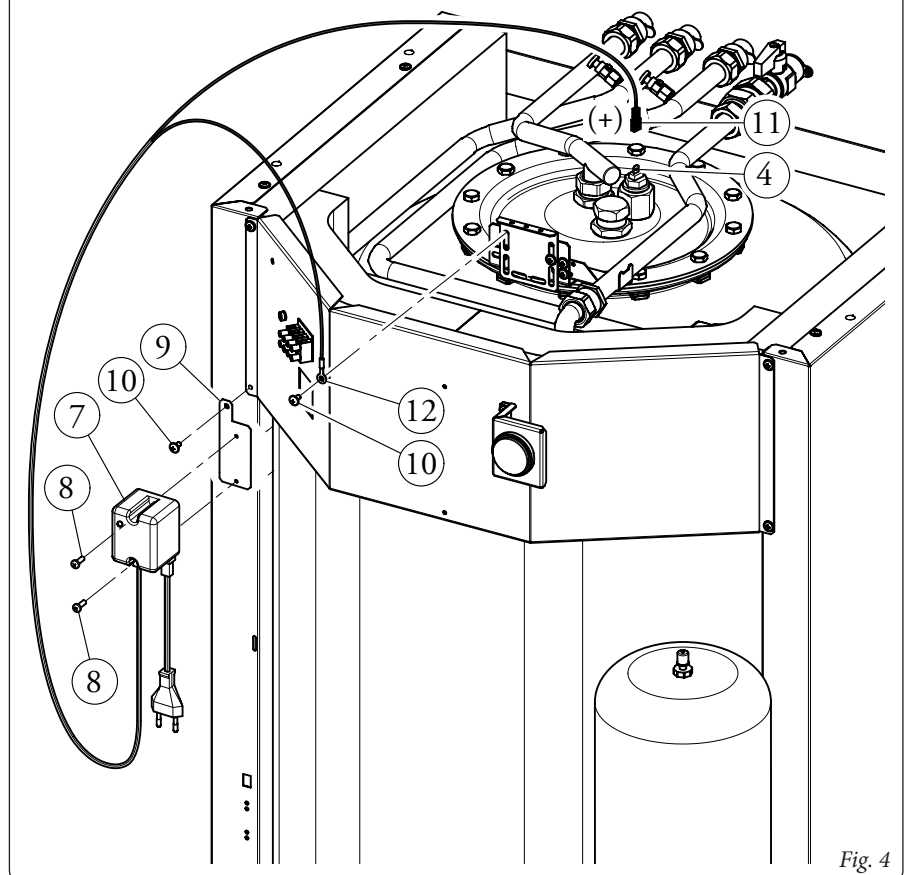

Fig. 4
- Assemble the control unit (7) with the screws (8) on the fixing plate (9) (Fig. 4).
- Assemble the plate (9) on the storage tank / cylinder using the screw (10).
- Make the earthing connection with black cable (12) on the storage tank / cylinder using the screw (10).
- Connect the red cable connector (11) to the faston on the anode (4).
N.B.: The connector (11) can be replaced with the flag connector supplied with the relative protection in order to improve connection with the anode and reduce its clearance.